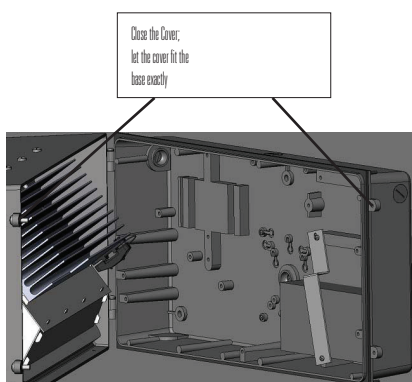

Figure 2
5. Put the cover on by connect the hinge. (Figure 2)